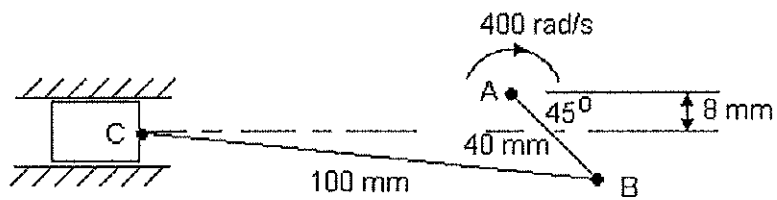

Figure Q2(a)
- b) A skeleton diagram of a horizontal single cylinder engine is shown in **Figure Q2(a)**. The mass of the sliding piston is 0.62 kg and the diameter is 80 mm. The gas pressure, 1.2 MPa acting on the piston produces crank rotation of 3000 rpm at the configuration shown. Assuming that the connecting rod and the crank have negligible inertia and friction.